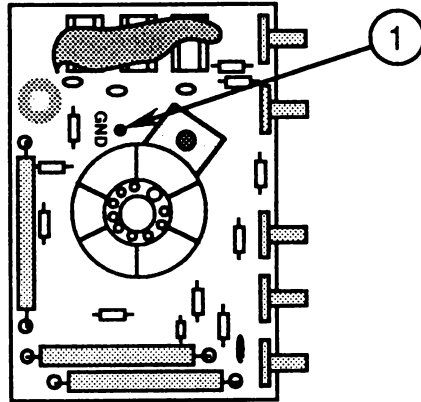

FIGURE 15
5. Turn the CRT board so that you can see the component side, and disconnect the gray CRT ground wire (Figure 15, #1).